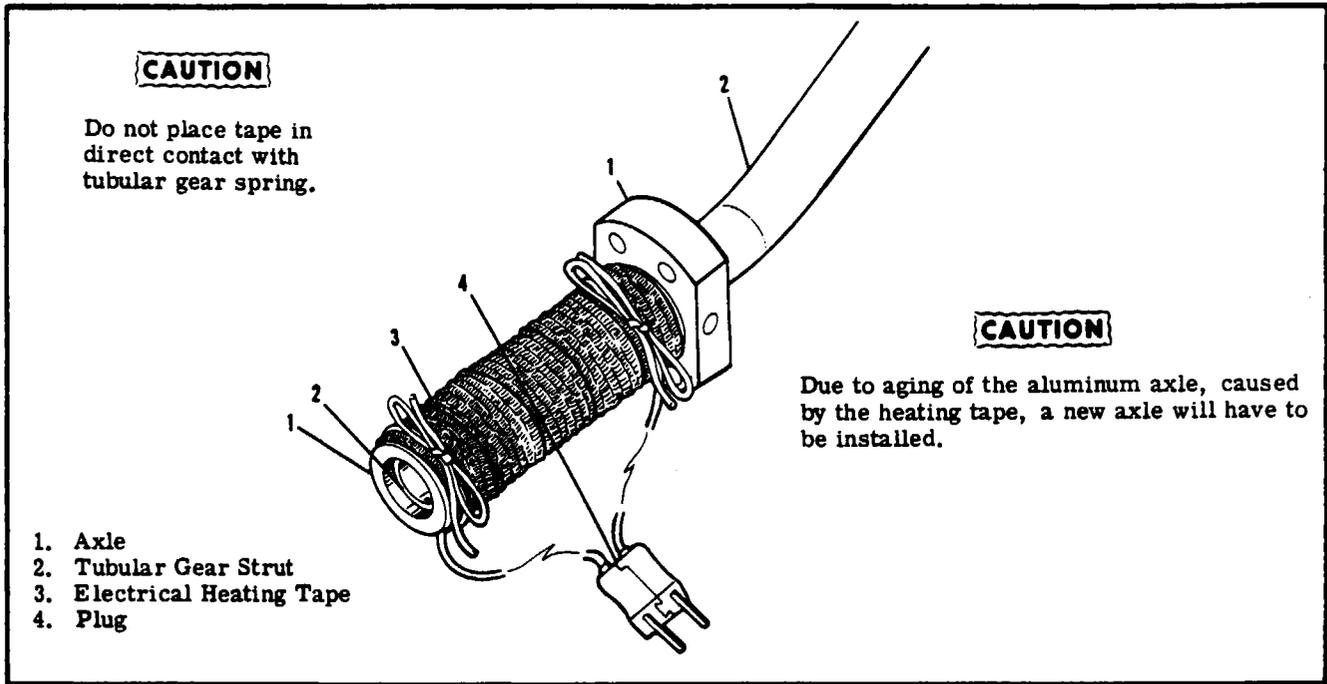

Figure 5-4. Main Wheel Axle Removal
**5-21. MAIN WHEEL AXLE REMOVAL (TUBULAR).** Refer to figure 5-4.
Refer to figure 5-4.